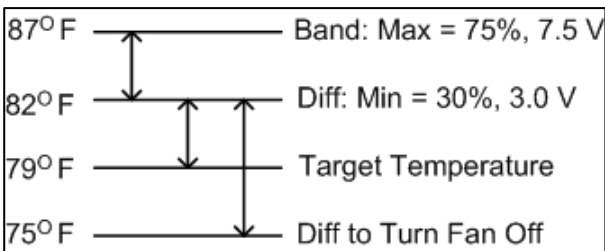

Figure 7: Variable Speed Fan Example
2. In *System > Variable Speed Fans Setting*, set the following parameters (refer to Figure 7):
- **Diff to Turn Fan Off.** If required, the variable fan can operate at minimum ventilation below the Target Temperature. This parameter configures the temperature below the Target Temperature at which ventilation runs at minimum. In Figure 7, the F. MV Off is 7° F. Default is 0° F